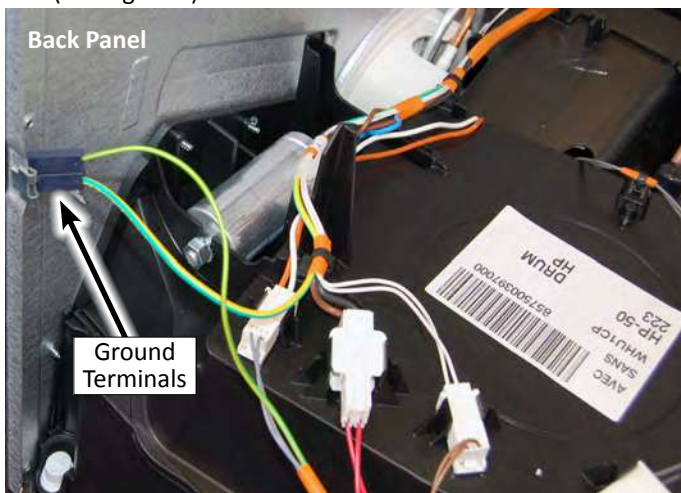

Figure 1
9. Disconnect the two ground terminals from the back panel (see Figure 1).